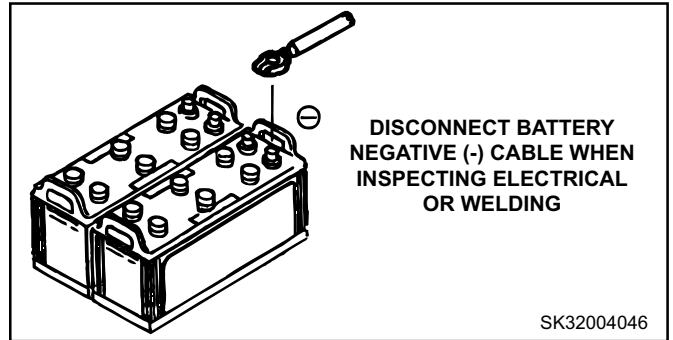

FIGURE 4.18B
**DISCONNECT BATTERIES BEFORE WELDING ON THIS MACHINE. SEE FIGURE 4.18B. CONNECT WELDER GROUND CABLE WITHIN 1M (3'-3") AWAY FROM AREA TO BE WELDED**